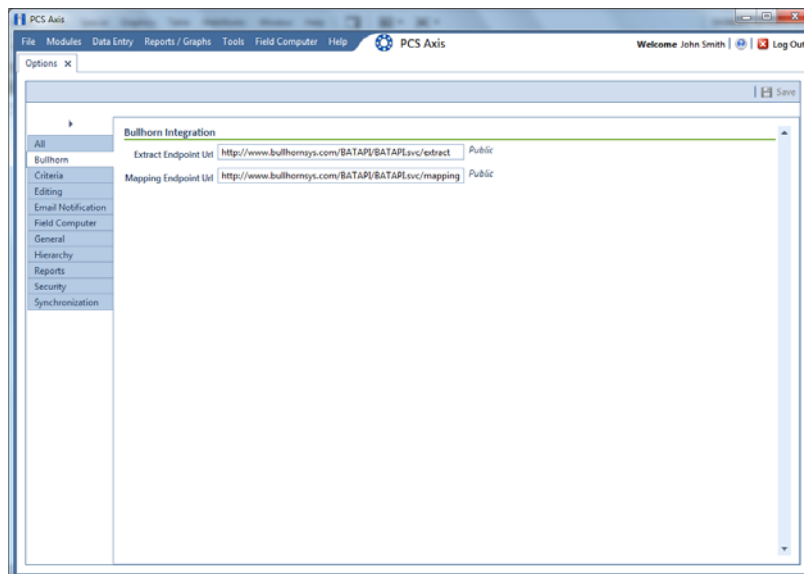

Figure 3-6. Bullhorn Options
- 1 Click **Tools** > **Options** > **Bullhorn** tab to open the *Bullhorn* options page (Figure 3-6).